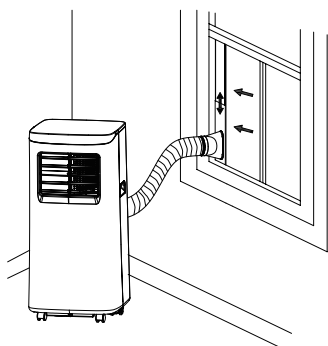
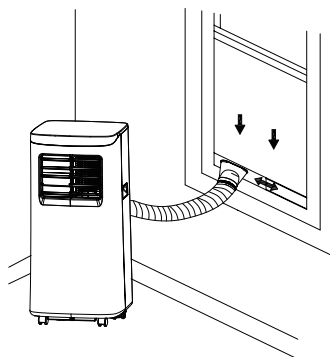

Figure5
Figure6
2) Elongate the exhaust pipe and snap the flat end of the exhaust pipe joints into the hole of the window sealing plate assembly (as shown in Fig.5 and Fig.6).